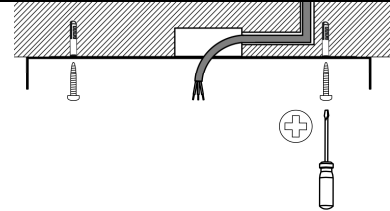

Fig.4 (SECTION)
- Fix the Mounting Bracket by two Nuts of expansion bolts. (Fig.4)